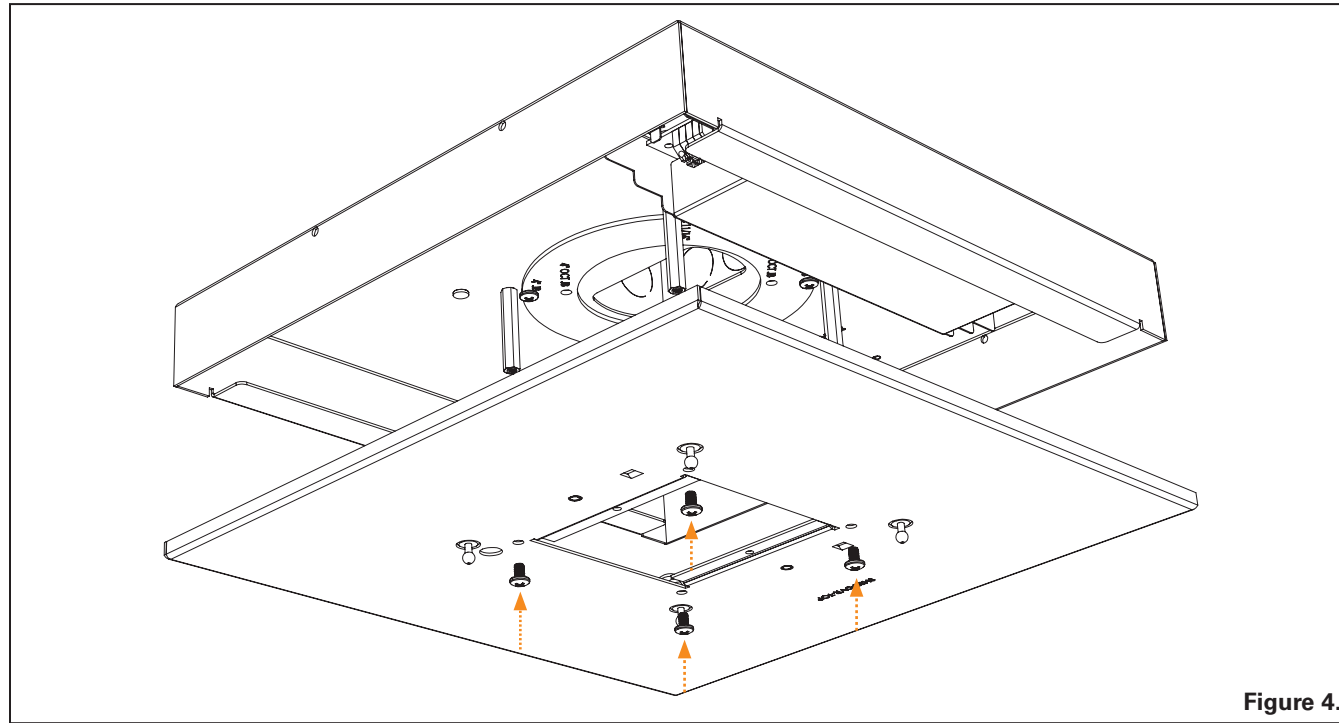

Figure 4.
Step 4. Using four #8-32 screws removed from the Driver Compartment Cover, attach the Cover to Driver Compartment. Ref. Figure 4.